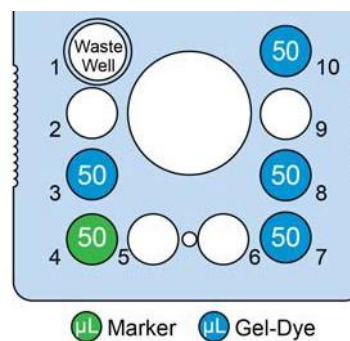
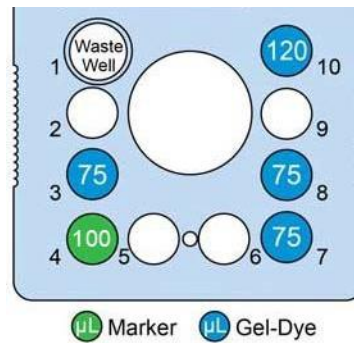

Figure 2. Low-Throughput Chip Preparation
Figure 3. High-Throughput Chip Preparation
- 5 Using a reverse pipetting technique, add **Gel-Dye solution** to chip wells 3, 7, 8, and 10 as shown in Figure 2 (Low-throughput) or Figure 3 (High-throughput).
- 6** Add **50 μL** (Low-throughput) or **100 μL** (High-throughput) of **ssDNA Marker** (green cap ●) to **chip well 4** as shown in Figure 2 or Figure 3.